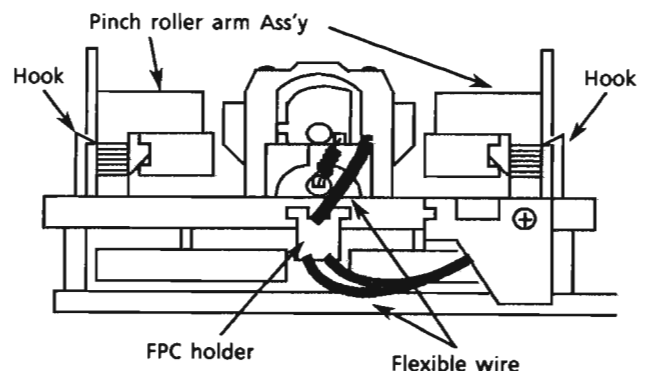

Fig 16
2. Remove the FPC holder (Fig 16).
1. Release the hook holding the pinch roller arm assembly to remove the assembly (Fig 16).
(4) Capstan motor removal